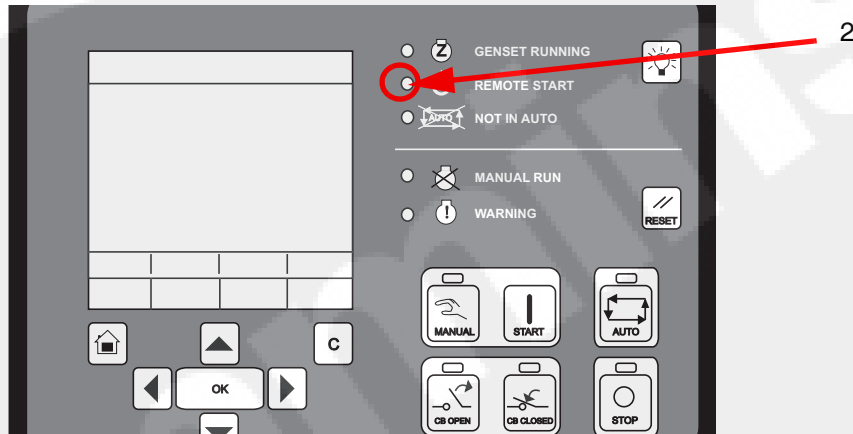

Figure 6-3 PCC 3300 HMI operator panel - REMOTE START LED
2. After receiving a remote start signal - from a transfer switch, a remote start switch, etc. - the PCC initiates the start sequence. In response to the remote start, the PCC shows the **Remote Start** indicator LED (shown in Figure 6-3) and initiates the starting sequence. This start incorporates a **Time Delay to Start** function.